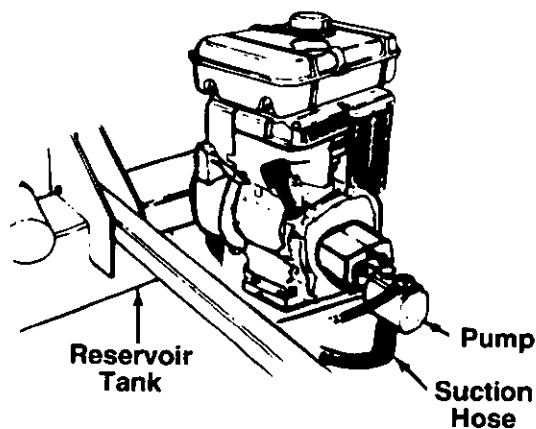

FIGURE 5.
- The suction hose is attached to the reservoir tank, beneath the engine mounting bracket. See figure 5. Cut off the securing strap. Loosen the hose clamp on the free end of the hose using a screwdriver.